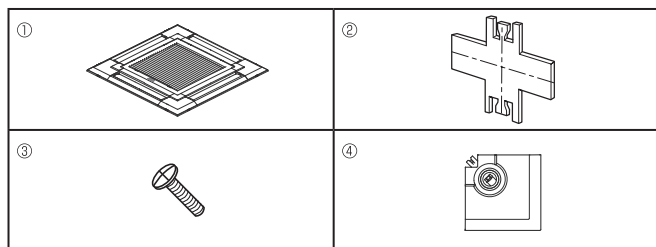

Fig. 1
1. Checking the contents (Fig. 1)